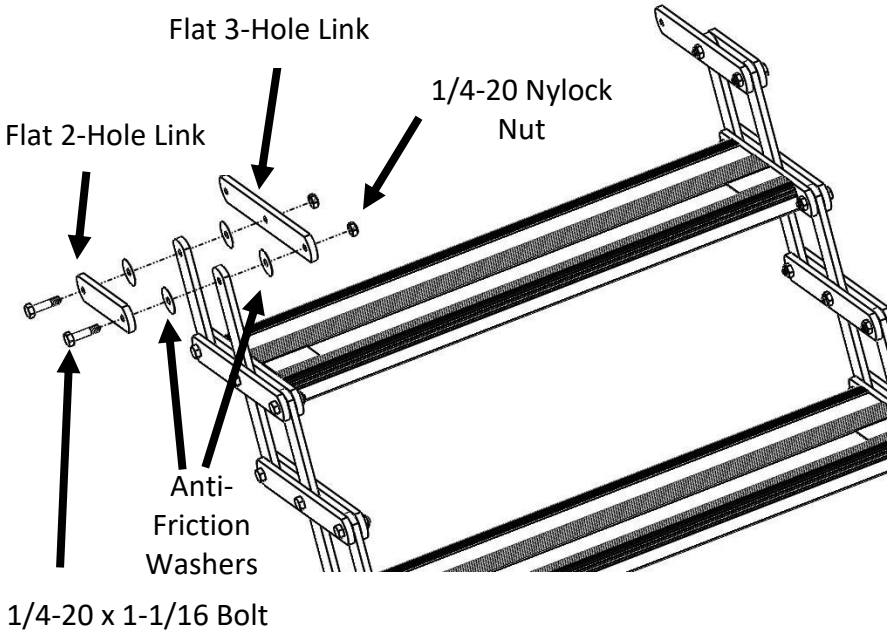

Figure 3.1
- Remove the top inner **flat 3-hole link** from your GlowSteps as shown in *Figure 3.1*.